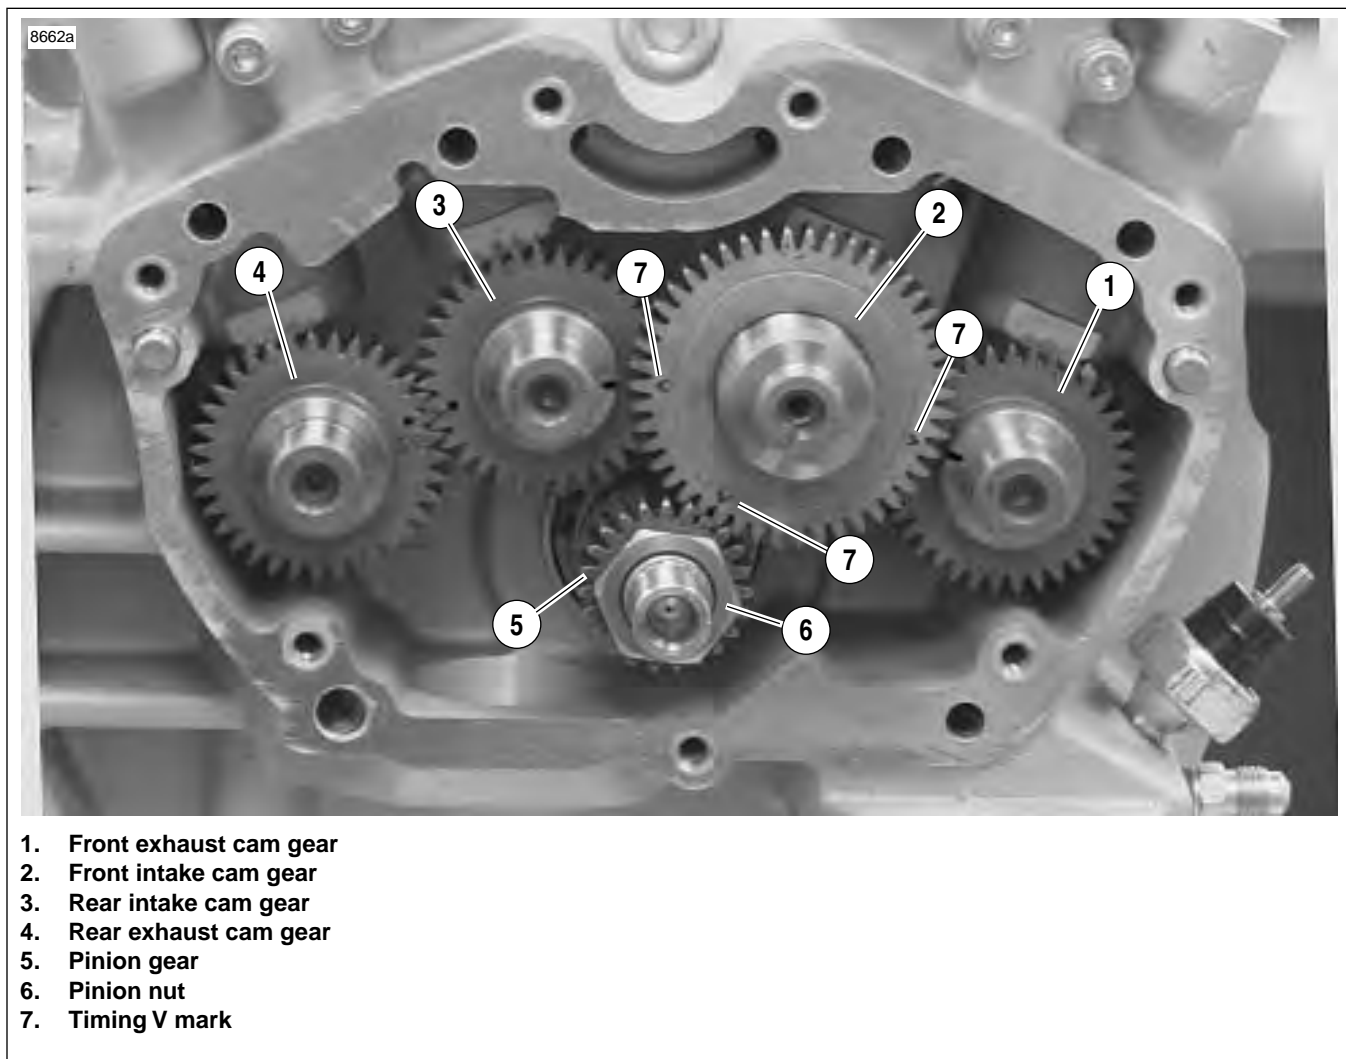

Figure 3-127. Cam and Pinion Gear Location and Timing Mark Indexing
8. See Figure 3-127. Remove cam gears (1, 2, 3 & 4).
See Figure 3-127. The XB9SX timing marks are located on the front intake cam assembly (2). Note the "V" marks.